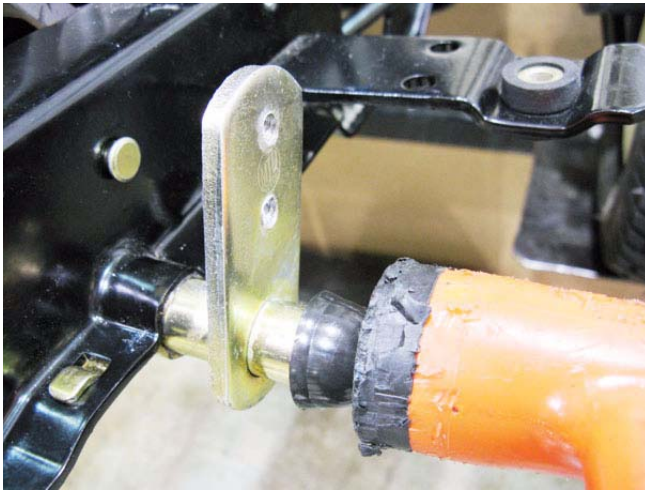

Figure 5.34
- 15b. Position the drive control shaft and bushings, fasten the drive control rod to it, then drive the push cap on. See Figure 5.34.